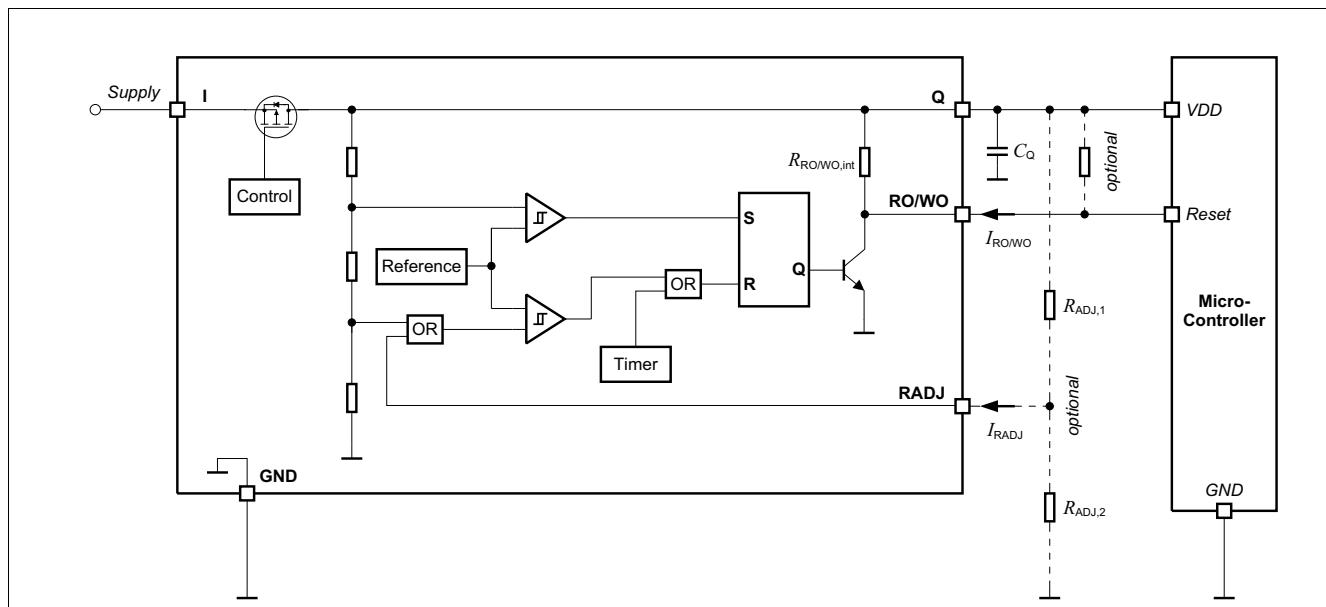

Figure 5 Block diagram reset circuit
- $R_{ADJ,1}, R_{ADJ,2}$: Resistors of the external voltage divider, see Figure 5.